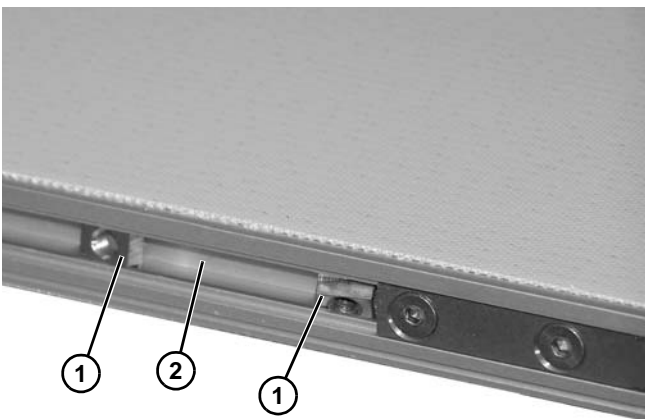

Figure 7
1. For standard mounting brackets, insert one T-bar (Figure 7, item 1), or pivoting mounting brackets, install two T-bars (Figure 7, item 1) into conveyor side slots (Figure 7, item 2).